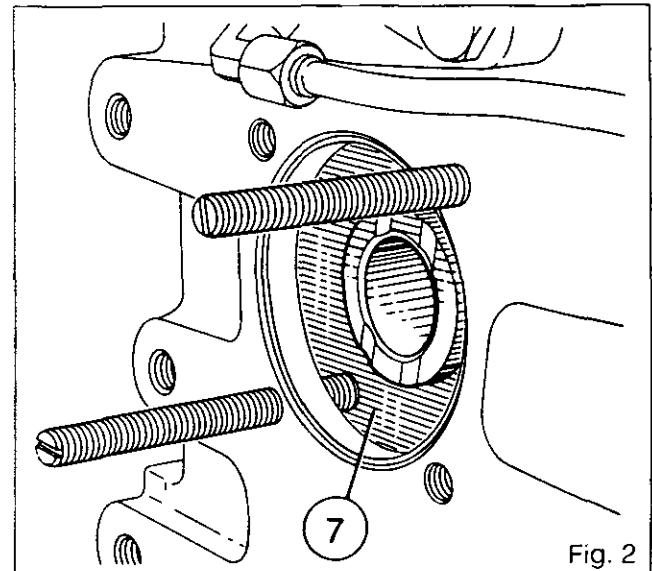
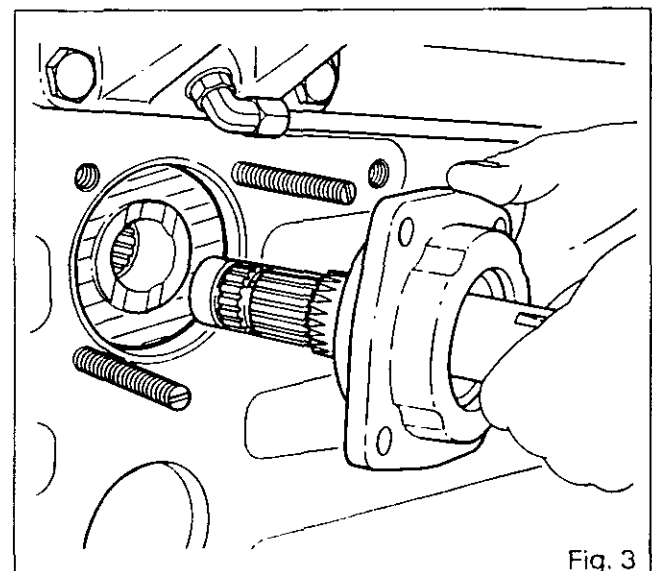
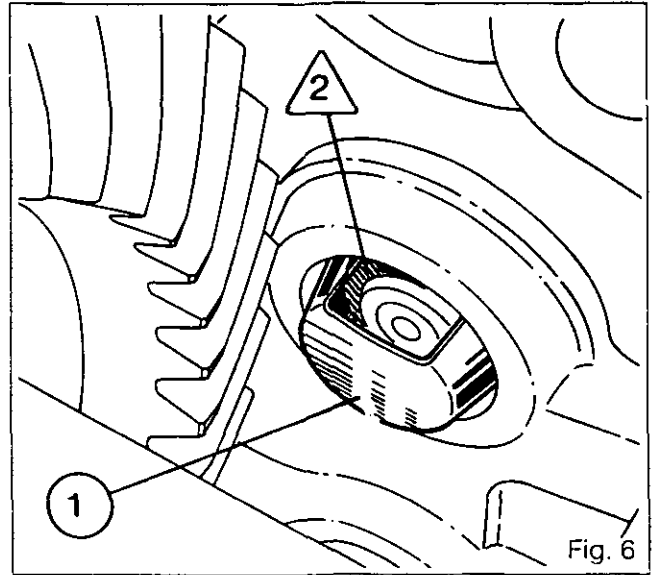
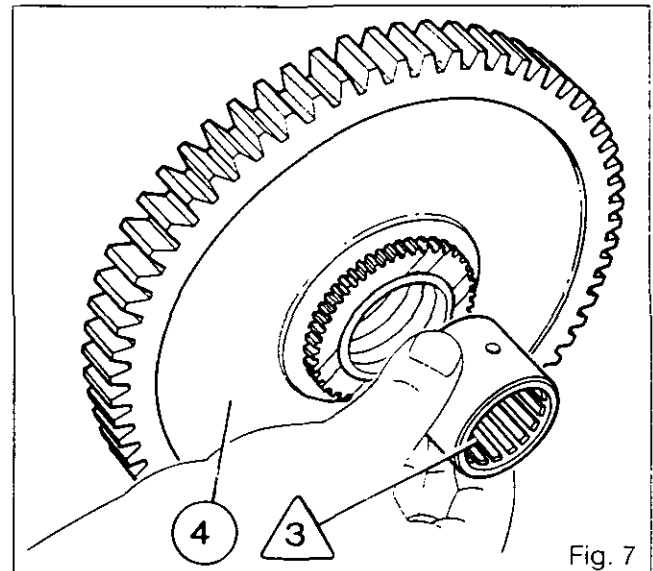

Fig. 2
Fig. 3
Fig. 6
Fig. 7
4. Screw two guide studs against the gear (7). The purpose of this is to hold the gear (4) and (7) (Fig. 2), the hub and the coupler in line when removing the shaft (13) and the cover assembly.
5. Remove the other two bolts (15).
6. Withdraw the shaft and cover assembly (Fig. 3). Discard the O-ring (18).
7. Replace the O-ring (18). Fit the shaft and cover assembly (Fig. 3).
8. Smear Loctite 542 on two screws (15) then tighten to a torque of 105 - 120 Nm.
10. Smear Loctite 542 on the other two screws (15) then tighten to a torque of 105 - 120 Nm.
29. Smear Loctite 648 on the face of the deflector (1) which meets the housing and place it in its hole. Position the aperture upwards (Fig. 6).
30. Fit the roller bearing (2) in the housing against deflector (1) (Fig. 6).
**Note: Place the sealed part of the roller bearing towards the gear (4).**
31. Using a jet of compressed air, ensure that the channel of the shaft (13) is not obstructed. Lubricate bushes (19) and (20). Refit the gears (4) and (7), the coupler (5) with the hub (6), the bush (3) with the toothed opening facing towards the rear of the tractor (Fig. 7).
**Note: If the bushes (19) and (20) are damaged, replace the gears (4) and (7).**
32. Engage the coupler (5) with the gear (7). Screw two guide studs against the gear (7). The purpose of this is to hold the gears in line (Fig. 2), when refitting the rear bearing assembly.